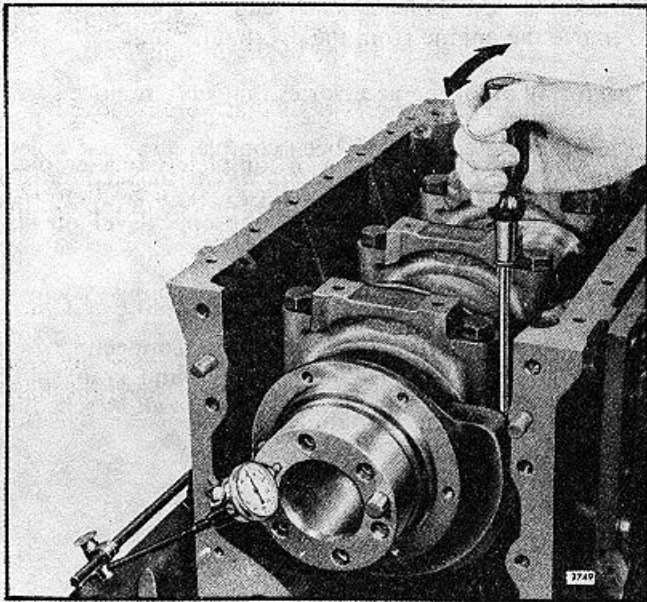

FIG. 9 - Checking Crankshaft End Play
7. Check the crankshaft end play by moving the crankshaft toward the gage with a small (less than 12") pry bar (Fig. 9). Keep a constant pressure on the pry bar and set the dial indicator to zero. Then remove and insert the pry bar on the other side of the bearing cap. Force the crankshaft in the opposite direction and note the amount of end play on the dial. The end play